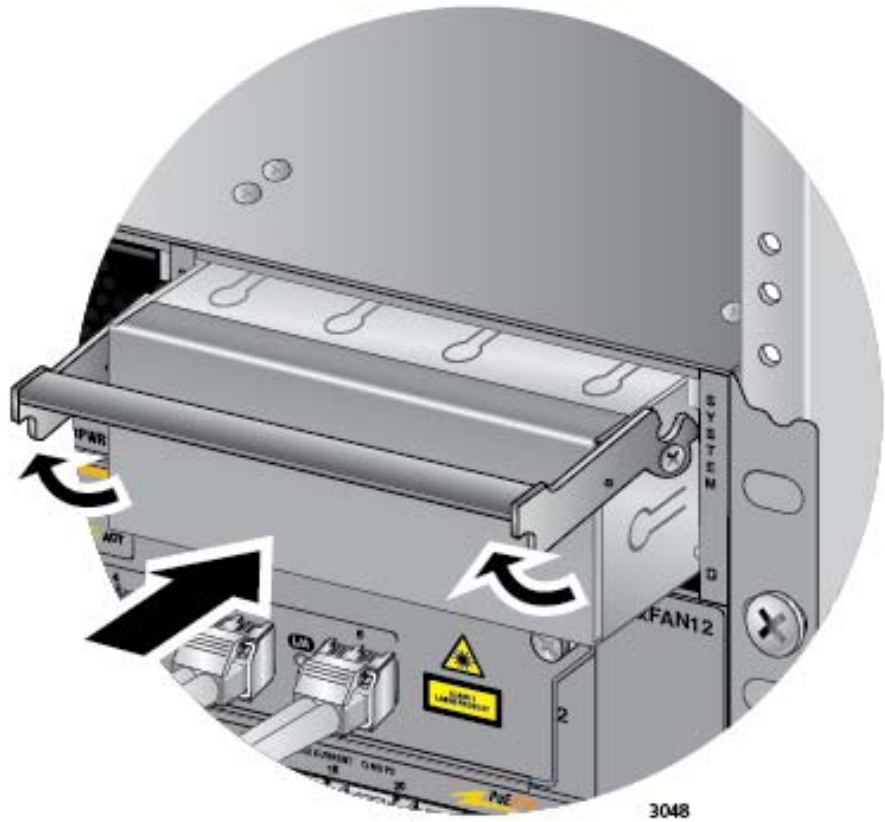

Figure 136. Installing a Blank Power Supply Slot Cover
5. Place the locking handle on the slot cover in the up position and slide the cover into the empty power supply slot, as shown in Figure 136 on page 207.